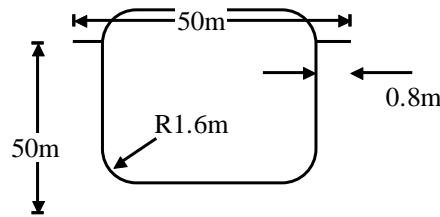

Fig. 8
8. The symmetrical cup work piece shown in figure 8 is to be made from cold rolled steel ($S_{yt} = 400 \text{ N/mm}^2$) & sheet thickness of 0.8mm. Design completely the drawing die for this part. **13**